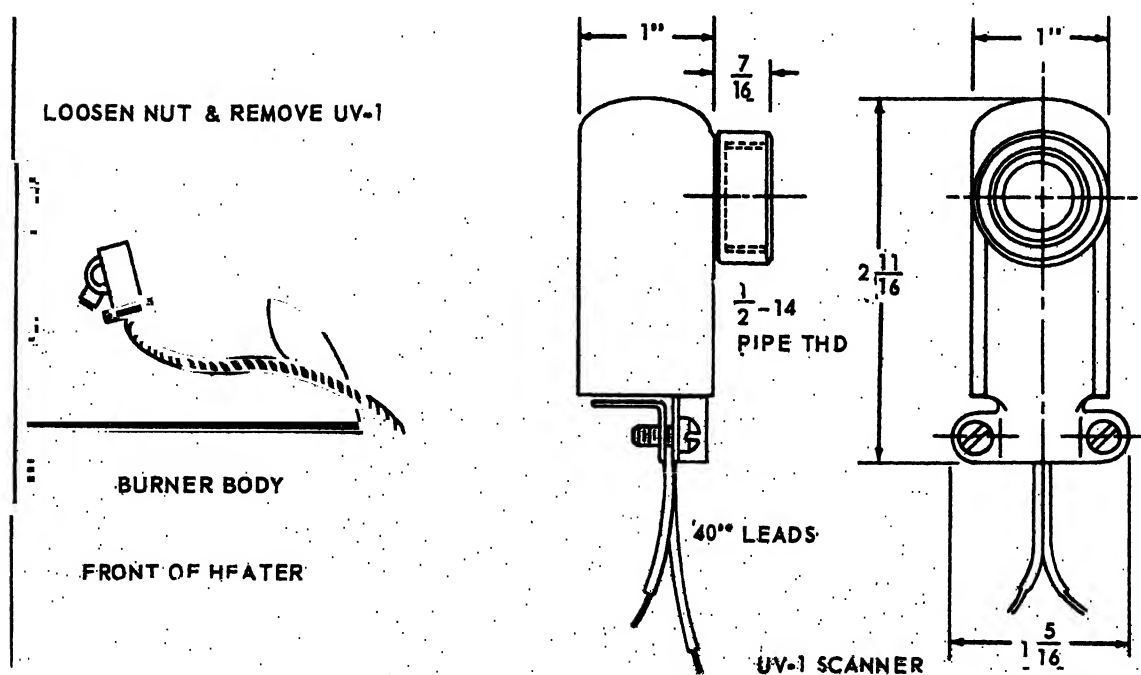

FIGURE 31. REMOVAL AND SERVICE U.V. CELL
4. If the U.V. Cell does not check out as described in the above, refer to Fig. 31 for removal and/or replacement.
b. Removal. Refer to Fig. 31 and remove the U.V. Cell and electron tube.
d. Installation. Refer to Fig. 31 and install the U.V. Cell and electron tube.